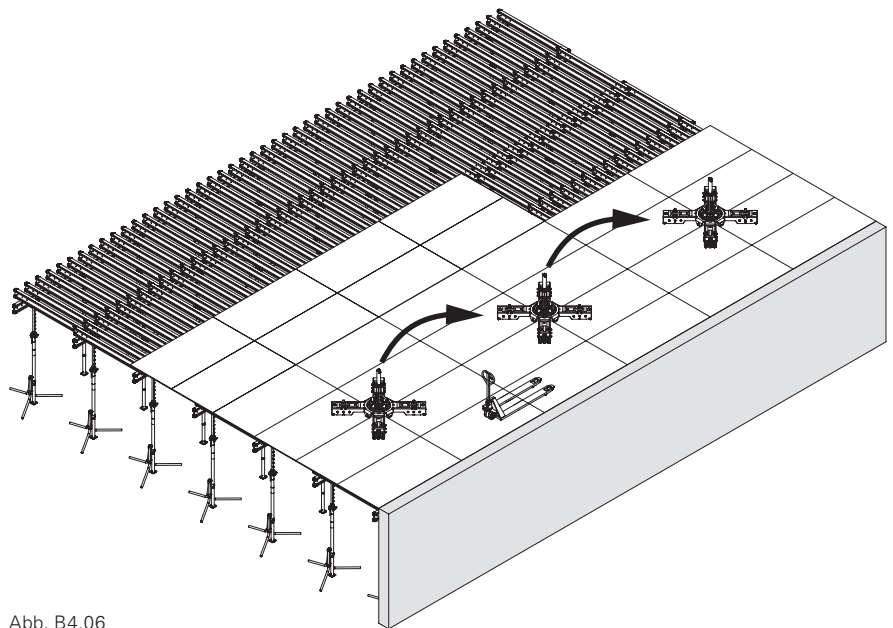
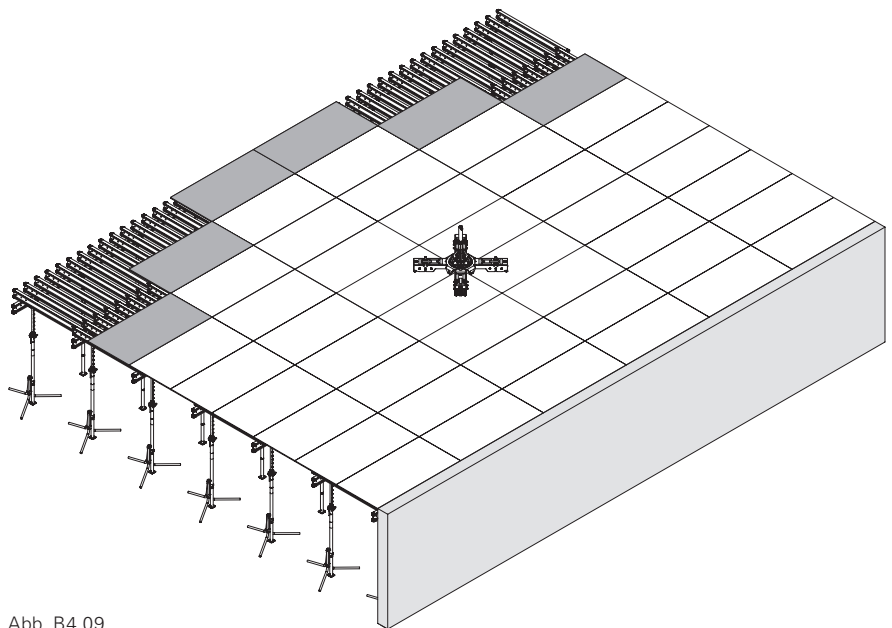

Abb. B4.06
Abb. B4.09
- (Abb. B4.06 – Abb. B4.09)
(Abb. B4.06 – Abb. B4.09)